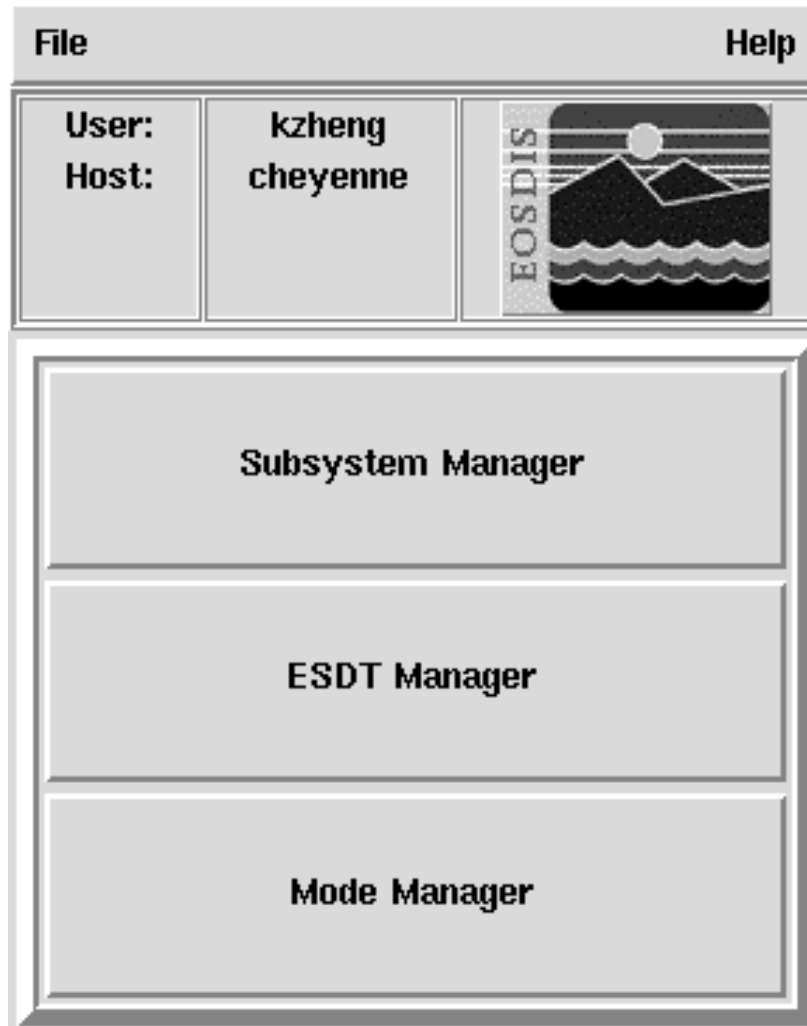

Figure 6.1-1. ECS Assistant GUI
- This will invoke the ECS Assistant GUI with three push buttons for selecting the proper activities, as indicated in Fig. 6.1-1.